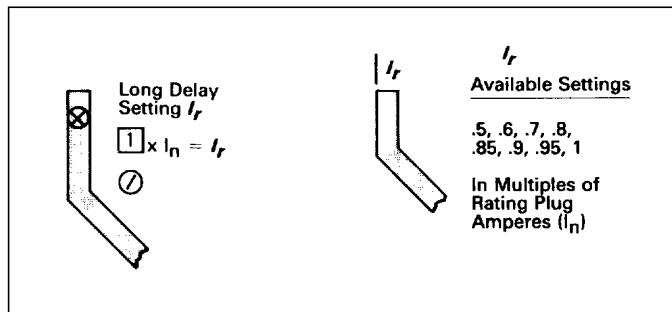

Fig. 4.1 Long Delay Current Settings
The available settings, along with the illustrated effect of changing the settings, are given in Figs. 4.1 through 4.7.
There are eight (8) available Long Delay Settings, as illustrated in Fig. 4.1. Each setting, called " I_r " is expressed as a multiple (ranging from .5 to 1) of the rating plug current (I_n).